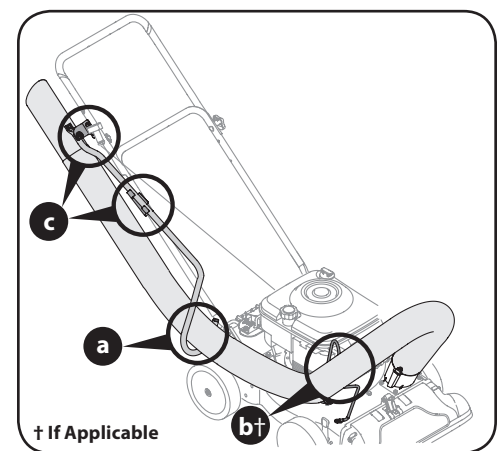

Figure 3-5
- Lay hose tubing in curved end of hose handle next to chipper chute and into hose cradle (if applicable). See A and B in Figure 3-5.
- Snap the hose handle first into the upper hose handle bracket and then into the lower hose handle bracket. See C in Figure 3-5.